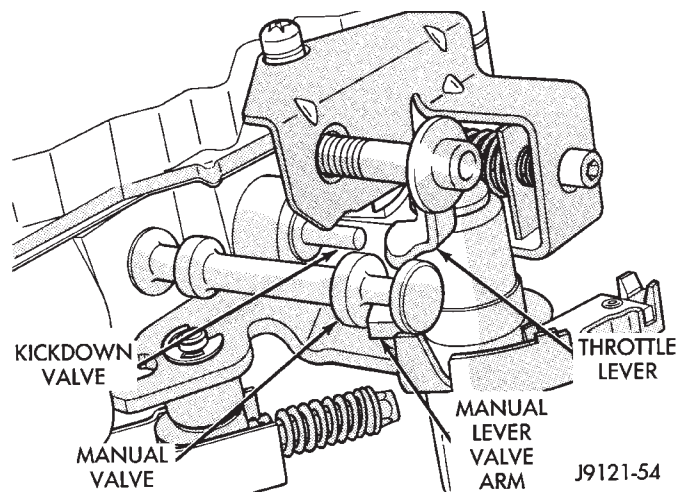

Fig. 126 Manual And Throttle Lever Alignment
(8) Align manual lever with detent ball and manual valve. Hold throttle lever upward. Then press down on manual lever until fully seated. Remove detent ball retainer tool after lever is seated.
(9) Then Install manual lever seal, washer and E-clip.
(10) Lubricate solenoid case connector O-rings and shaft of manual lever with light coat of petroleum jelly.
(11) Verify that throttle lever is aligned with end of kickdown valve stem and that manual lever arm is engaged in manual valve (Fig. 126).
(12) Install boost valve, valve spring, retainer and cover plate. Tighten cover plate screws to 4 N•m (35 in. lbs.) torque.
(13) Obtain new fluid filter for valve body but do not install filter at this time.
(14) If line pressure and/or throttle pressure adjustment screw settings were not disturbed, continue with overhaul or reassembly. However, if adjustment screw settings were moved or changed, readjust as described in Valve Body Control Pressure Adjustment procedure.